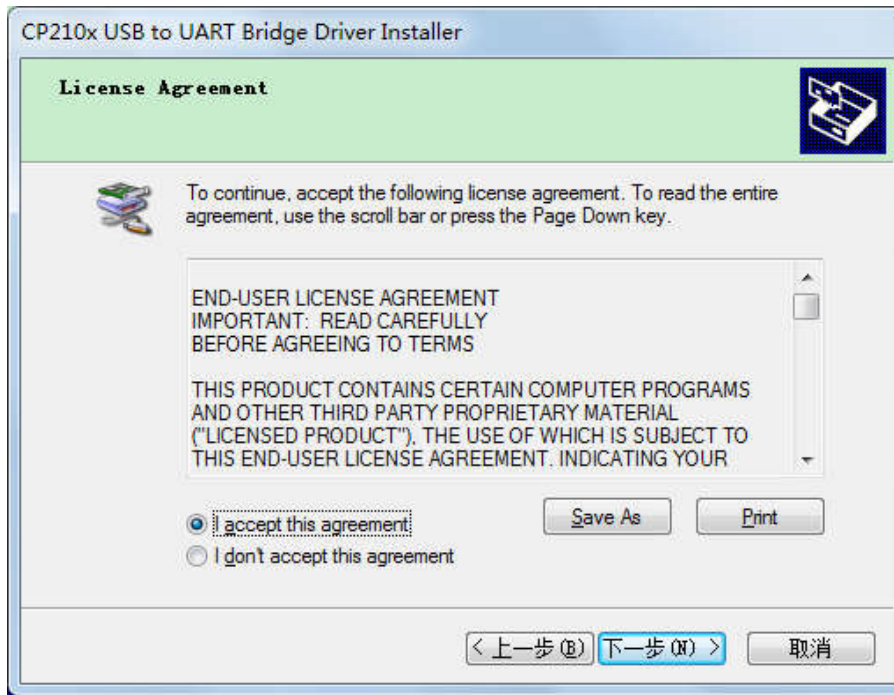

Figure 4-8 Agreement selection window
6. Click the button "Close" in Figure 4-6 to complete the module software installation, and then click the button "Next" in Figure 4-7 for USB driver installation, at which time, an agreement selection window as shown in Figure 4-8 will pop up.